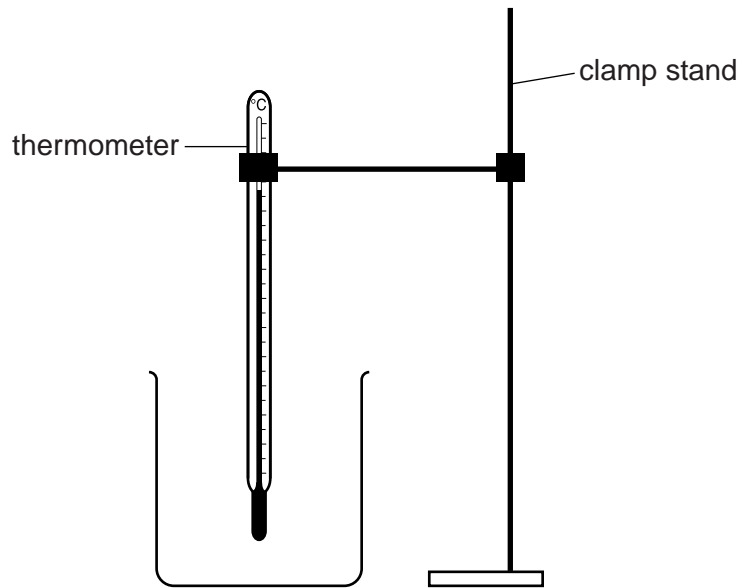

Fig. 2.2
5. A clamp, boss and stand are to be set up with the thermometer held in the clamp as shown in Fig. 2.2. The candidates must be able easily and safely to read temperatures up to $90\text{ }^\circ\text{C}$ and to move the thermometer in and out of the water without the danger of the beaker tipping.